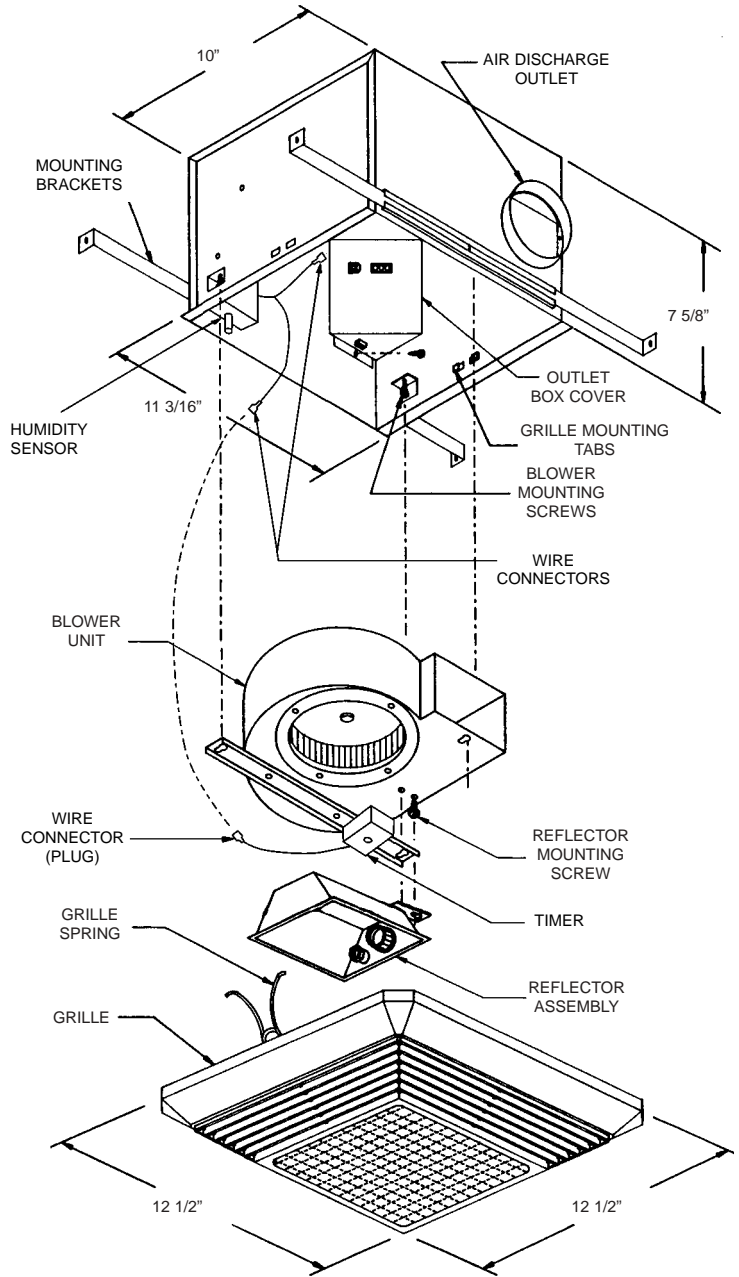

FIG. 9
1. Remove grille assembly from carton and set aside until needed. Remove reflector assembly from blower unit (MODELS: 7100L, 7100FLH, 7150FLH, 7150L, 7100FL, 7150FL, 8090L & 8100L) by pulling plug from receptacle, loosen mounting screws and remove through keyhole slot. Pull timer plug from receptacle if applicable. See Fig. 9.